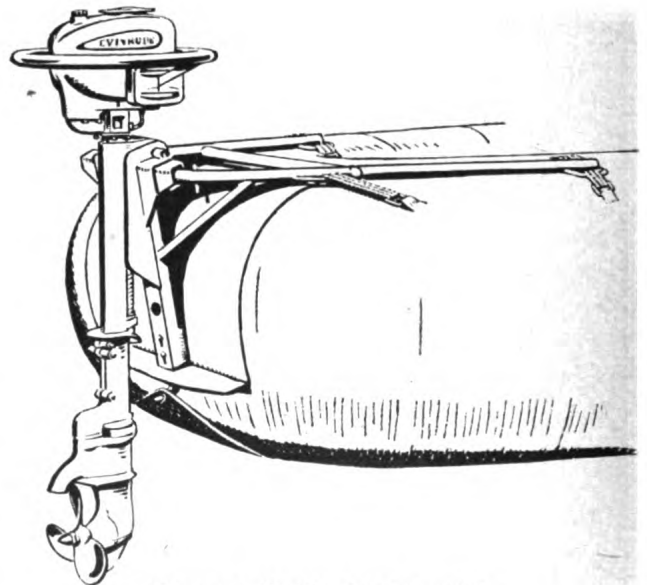

Figure 9. Rubber boat bracket.
d. For mounting heavy duty Lightfour engines on rubber boats, a steel bracket is provided (fig. 9). An adjustable hook at the bottom of the bracket engages a hole in an extension of the rubber bottom of the pontoon, and the bracket is then securely lashed to the top of the pontoon. Sliding extension arms distribute the thrust load from the engine to a large area of the pontoon. When the motor is placed in position on the steel bracket, the notched lower end of the aluminum bracket engages the stud on the midsection of the steel boat bracket. The two thumbscrews should then be tightened securely.